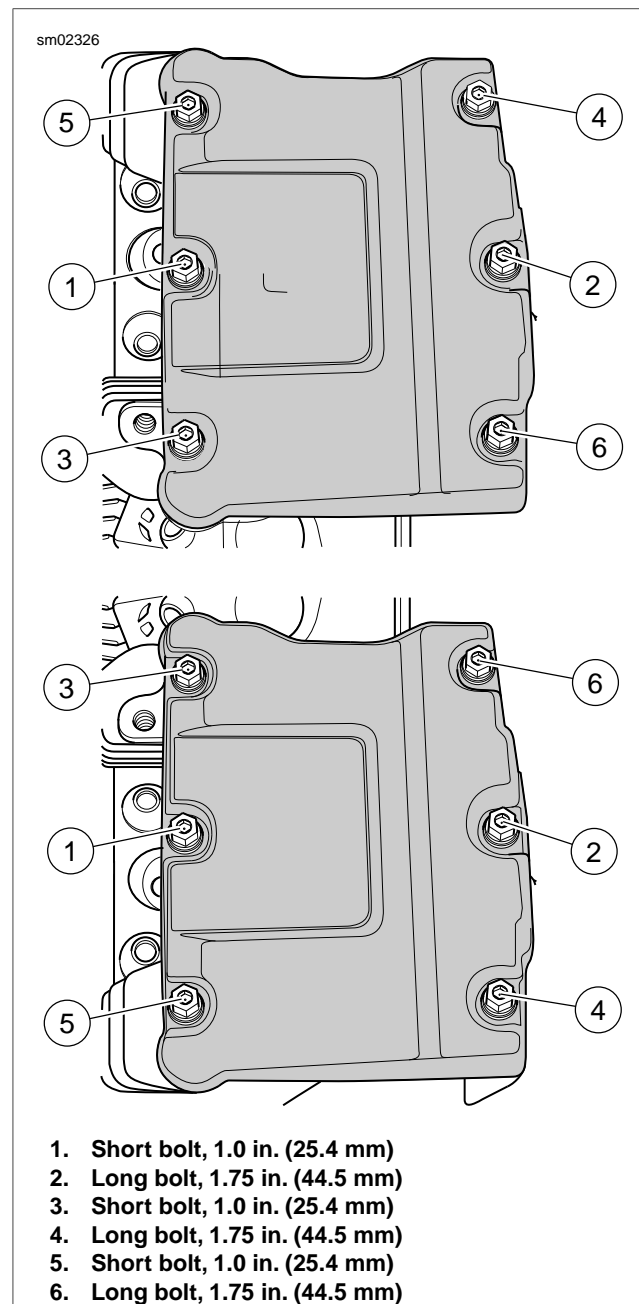

Figure 3-50. Rocker Cover Bolts Torque Sequence
1. See Figure 3-50. Alternately tighten the two bolts to secure breather assembly to 90-120 **in-lbs** (10.2-13.6 Nm).
3. Figure 3-50. Install rocker cover bolts.